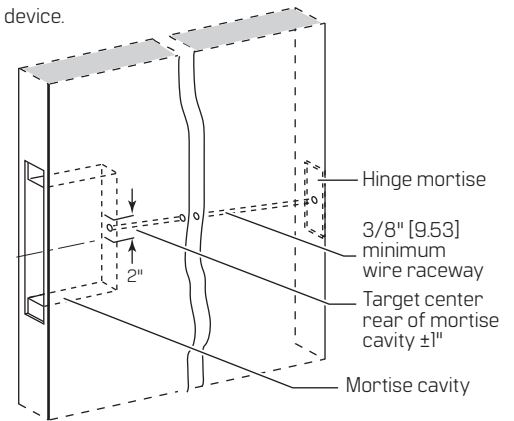

Figure 1 Preparing wire chase through door
- 1.2 Drill a minimum 3/8" [9.53] diameter wire raceway through door, from center hinge to center back of mortise cavity  $\pm 1"$  vertically (a 2" [50.8] range) shown in **Figure 1**.